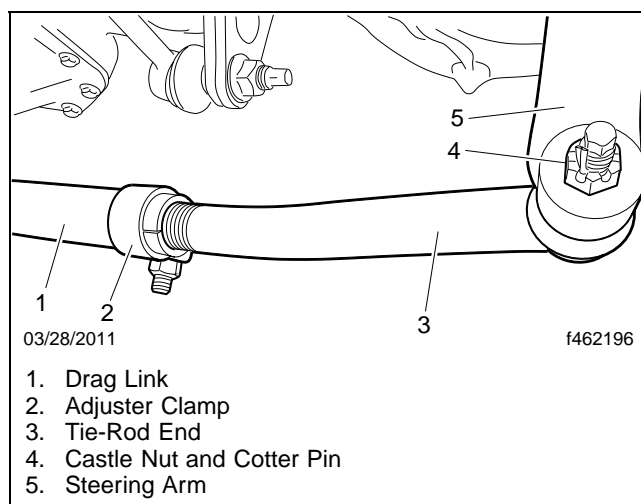

Fig. 1, Tie-Rod End Assembly
5. Loosen the adjuster clamp nut and bolt on the left tie rod. See **Fig. 1**.
9. While counting the number of turns, unscrew the tie-rod end from the drag link. Discard the tie-rod end. See **Fig. 1**.